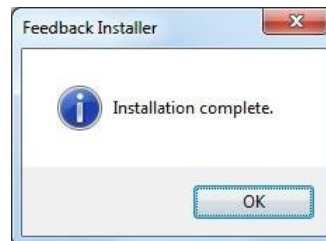

Figure 11 Installation Complete window
6. The software will begin installing. When install an 'Installation Complete' window will appear (Figure 11).